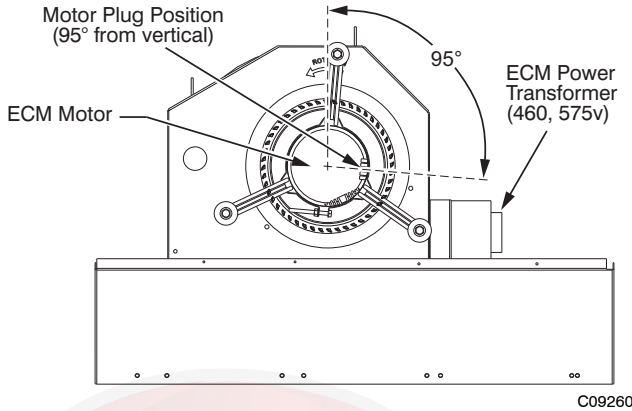
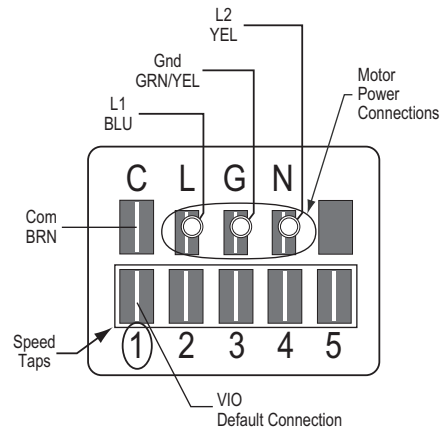

Fig. 5 - Direct-Drive Supply Fan Assembly
Fig. 6 - ECM Motor Connectors
For unit sizes 04, 05 and 06, a direct-drive forward-curved centrifugal blower wheel is an available option. The motor has taps to provide the servicer with the selection of one of five motor torque/speed ranges to best match wheel performance with attached duct system. See Fig. 5 and Fig. 6 .
208/230V units use a 230V motor. 460V units use a 230V motor with a stepdown transformer (mounted on the end of the fan housing, see Fig. 5). 575V units use a 460V motor with an autotransformer. Motor power voltage is connected to motor terminals L and N (see Fig. 6 and Fig. 7); ground is connected at terminal G. The motor power voltage is ALWAYS present; it is not switched off by a motor contactor.
8. Ensure the motor terminals are located at a position below the 3 o’clock position (see Fig. 5). Tighten the motor belly-band bolt and torque to 80 in-lbs (9.0 Nm).